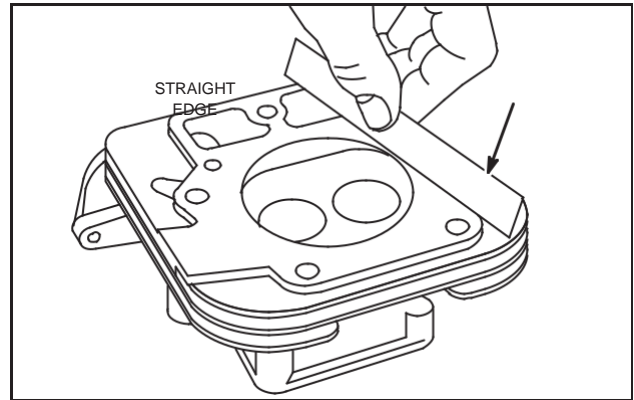

Fig. 12 – Check Cylinder Head For Distortion
1. Check cylinder head, Fig. 12.